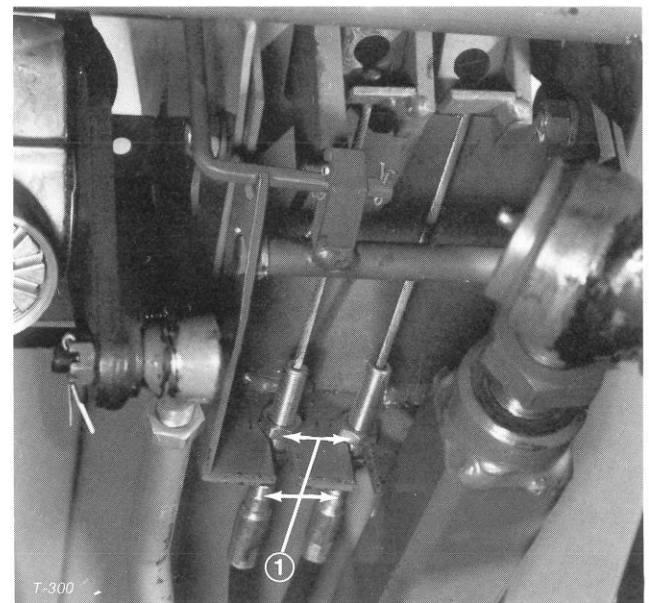

Figure 71
1. To reduce free travel of turn pedals — tighten the brakes — loosen front nut on threaded end of brake cable (Fig. 71). Then tighten rear nut to move cable backward until turn pedals have 1/2 to 1 inch (13 to 25 mm) of free travel. Tighten front nut after brakes are adjusted correctly.